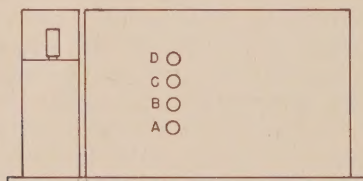

Figure 3. Locations of Dust Core and Trimmer Adjustments.
4.2.2 ACCESS TO ADJUSTMENTS. Four holes in the top of the r-f compartment (see Figure 3) provide access to almost all of the dust cores and trimmer capacitors. Table 1 indicates how the adjustments may be reached. Except as otherwise noted, the RF RANGE switch must be set to the appropriate frequency range for access to adjustments.
LOCATION OF ADJUSTMENTS (see Figure 3)